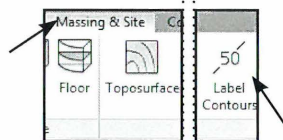

Fig. 10.49. Massing & Site - label Contours.
- Klik *Massing & Site - Label Contours* (Fig. 10.49).